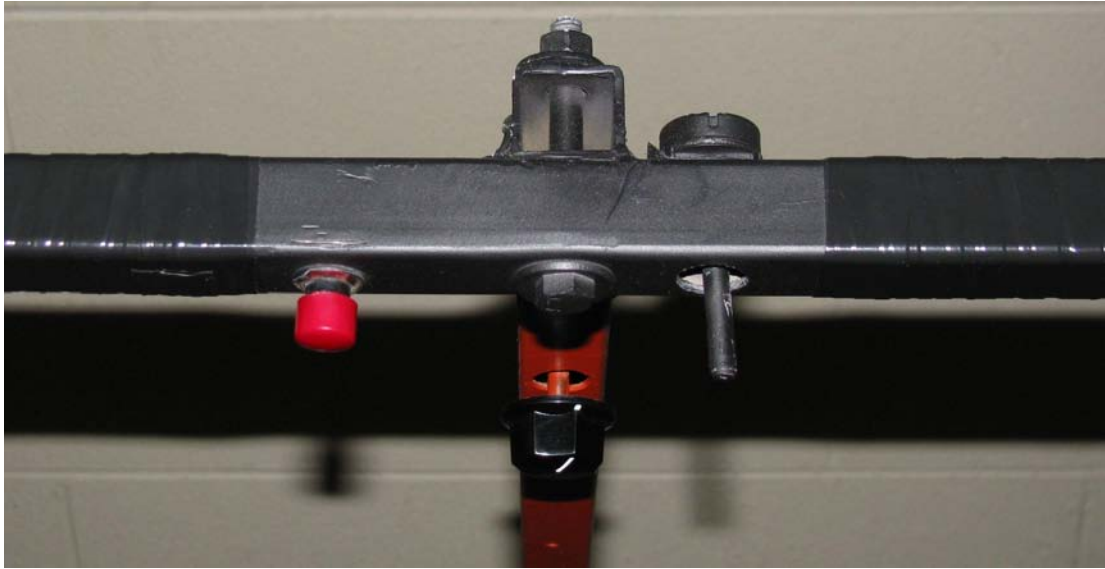

Figure 11-27. The large Red button on the left side of the handlebar is used as the Engage switch.
4. Now remove the red plastic button top, remove the mounting nut, and slide the button switch through the larger 5/8-inch hole and again through the smaller mounting hole. Lastly, secure the mounting nut to the switch from the front side of the tubing and reinstall the red button top (see Figure 11.27).